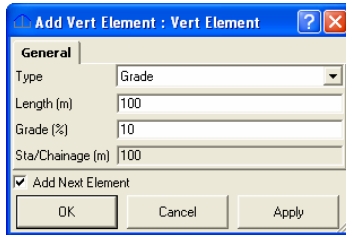

Figure 9-48. Add Vert.Element: Grade dialog box. General Tab
2. In the *General* tab of the *Add Vert. Element: Grade* dialog box, enter the following parameters for the grade (Figure 9-48 on page 9-31):